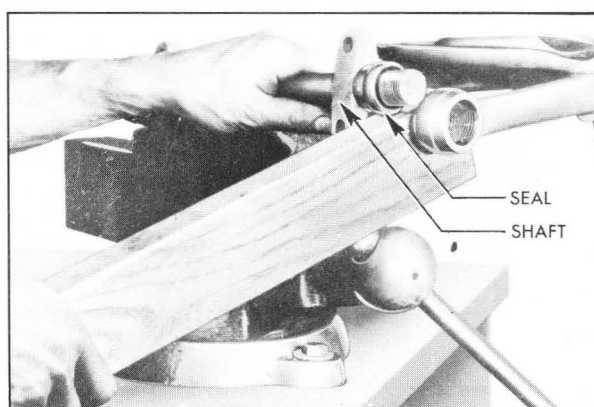

Figure 6-23—Springing Arm Over End of Shaft
4. Install a rubber seal over each threaded end of new control arm shaft, with the large or bell ends of seals outward toward ends of shafts. See figure 6-23.
5. Insert one end of shaft with the seal in place in one control arm end and force opposite end of shaft into the other control arm end. A piece of wood approximately  $1\frac{1}{4}$ " x  $2\frac{1}{2}$ " x 24" long can be used as a pry. See figure 6-23.